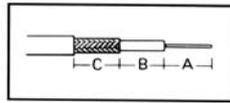
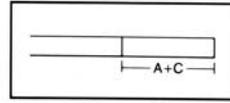

Figure 13
Figure 14
A. If your required strip length is as shown in Figure 13, you will choose the 2-step cassette that matches your "C"-dimension. **Mark cable** at length A+C from end (Fig. 14).